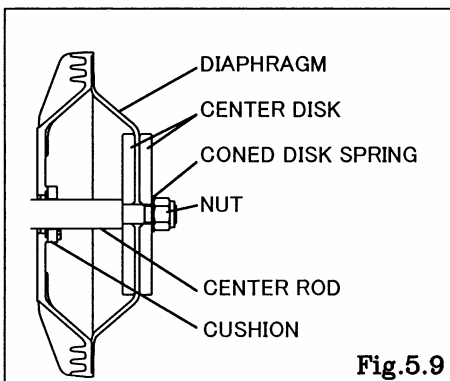

Fig. 5.9
- Fix a double nut to one end of the center rod and take the diaphragm and center disk off the opposite end. [Fig.5.9]
- Insert the cushion (except with the NDP-80). (cf. Fig.5.9)
- Draw the center disk to one side (exclude B\_H, B\_S type cf. Fig. 5.9).